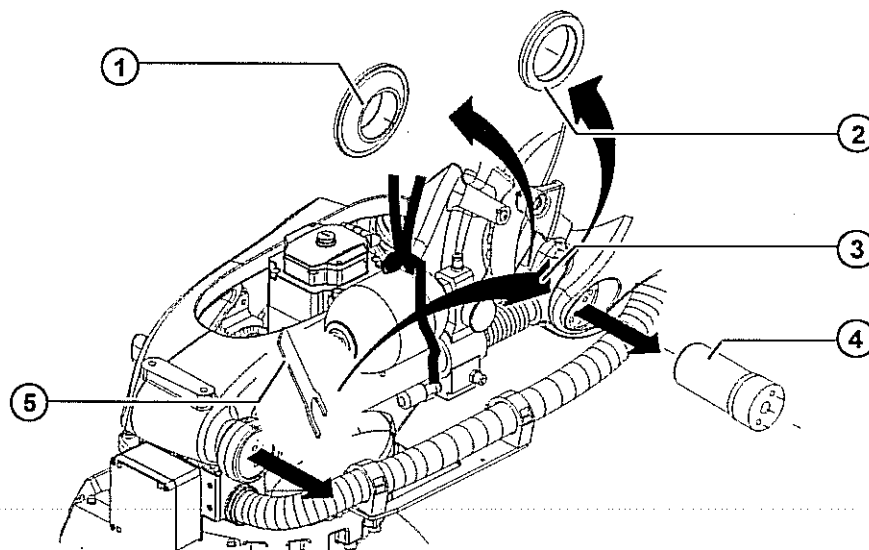

Fig. 12-22: Removing the counterbalancing system: pin
10. Insert the pin locator on the right-hand side between the articulated head and the link arm (>>> Fig. 12-22).